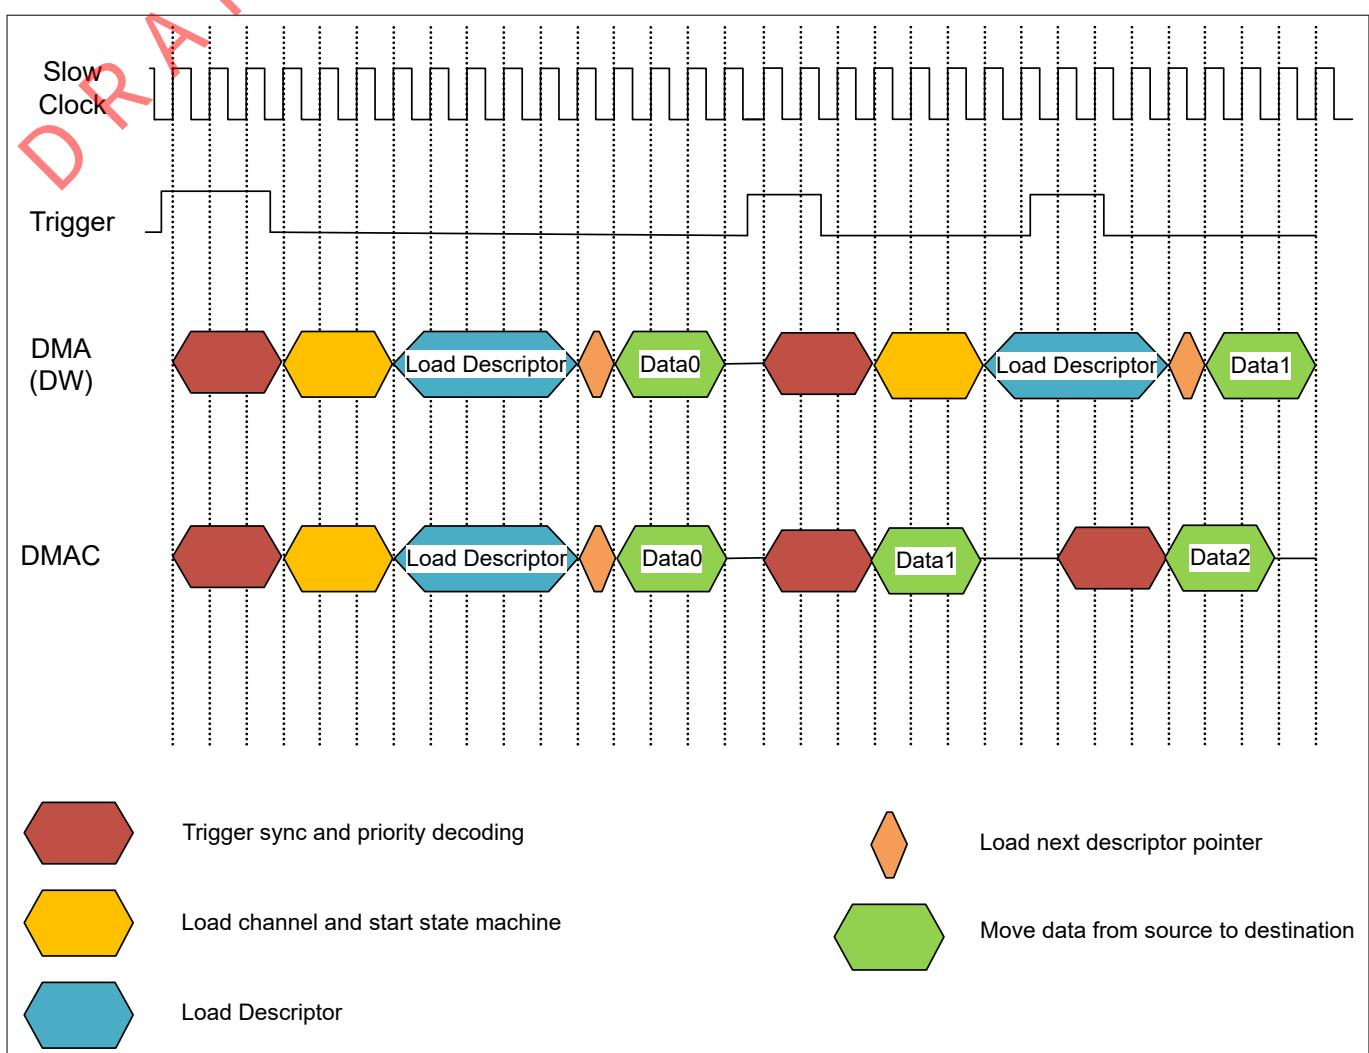

Figure 154 Performance comparison of DW and DMAC for a triggered mode of transfer
On DMAC, the DMA transfer engine logic is replicated per channel with channel-level memory to hold the state while switching channels. For every trigger, the DMAC does not have to fetch all channel and descriptor information. The only extra cycles incurred are for trigger sync and priority decoding. This means that DMAC will perform better in a transfer that is triggered multiple times. Figure 154 shows this comparison of performance between DMAC and DMA (DW) using a timing diagram.